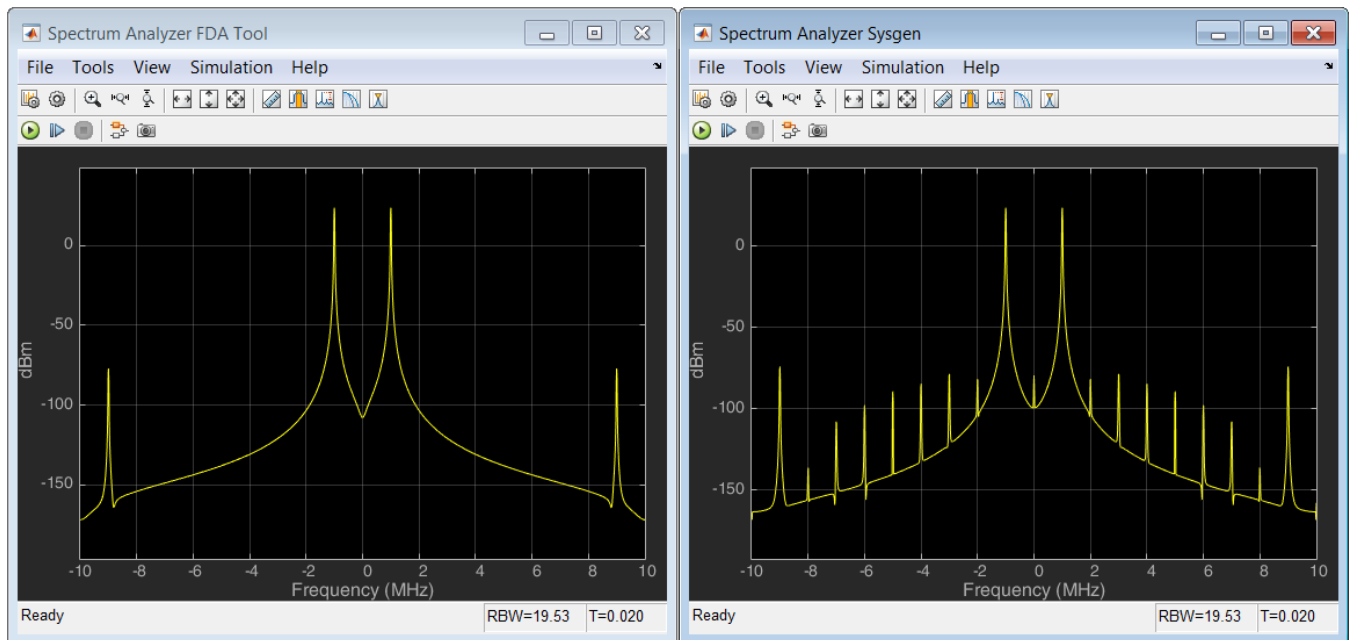

Figure 13: FIR Compiler Results
18. Click the **Run** simulation button  to simulate the design and view the results, as shown in Figure 13: FIR Compiler Results.